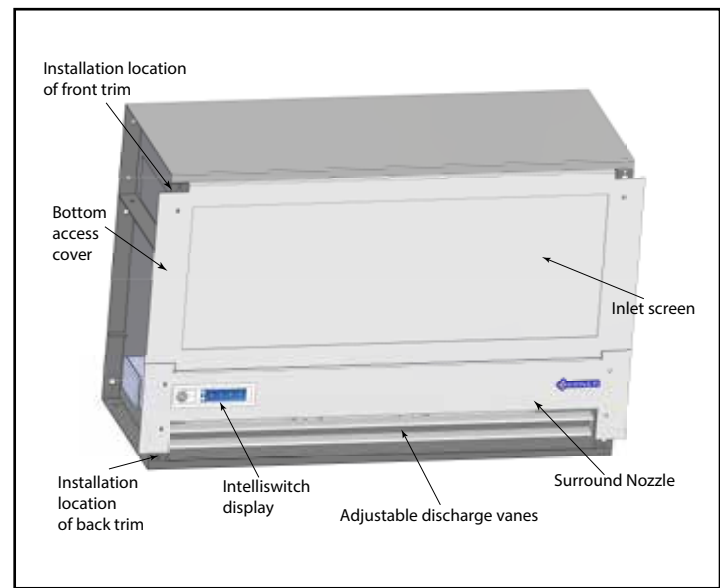

Figure 3
- E. The unit is shipped without the front and back trim installed to protect it from shipping damage. This trim need not be installed until after the unit is hung. **See Figure 3.**